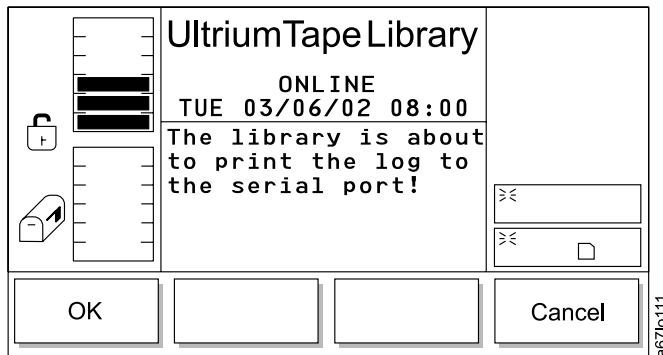

Figure 98. Print Dialog
- If **Print** is selected, the Print Dialog displays (see Figure 98).